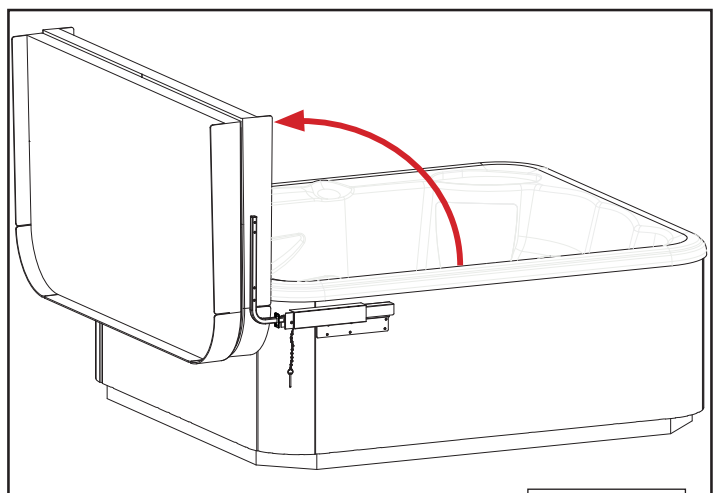

Figure 6.2
3. Lift the spa cover in to the full open position (Figure 6.2).